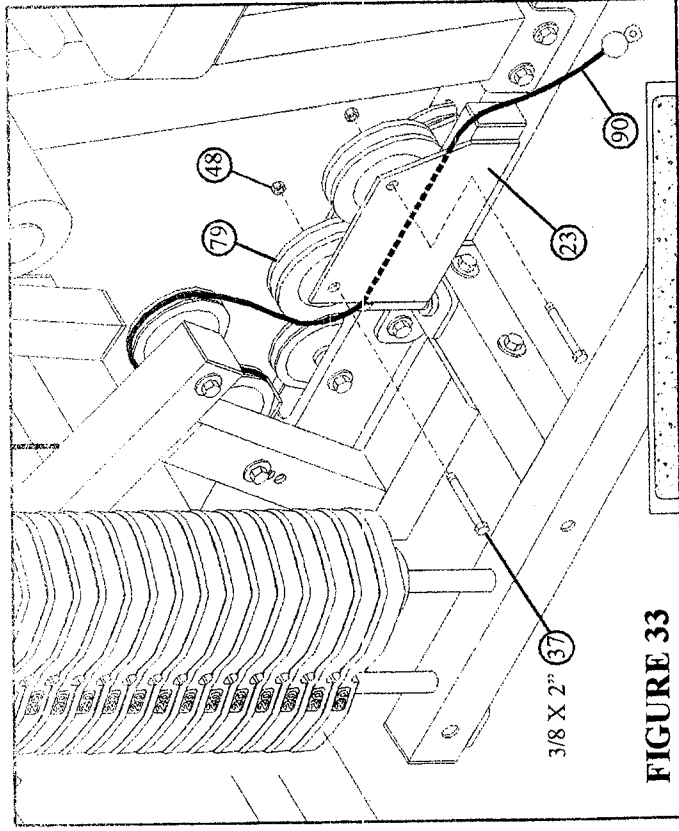

FIGURE 33
- After routing ball end of LEG EXT. CABLE (90) through SWIVEL PULLEY BRACKET (23), attach two 3-1/2" PULLEYS (79) using two 3/8" X 2" BOLTS (37) and two 3/8" LOCK-NUTS (48). See FIGURE 33.